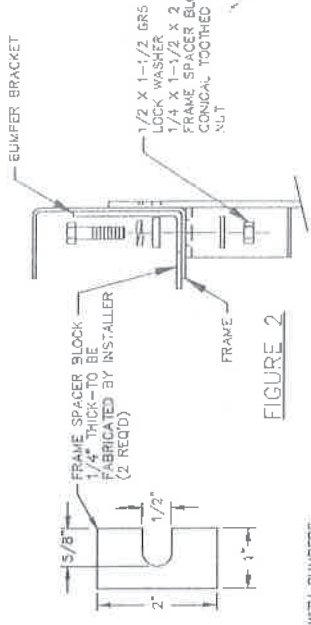

FIGURE 2
- LOOSELY INSTALL 1/2 X 1-1/2 GR5 HEX BOLT, LOCK WASHER & 1/4 X 1-1/2 X 2 BLOCK (1097-002) AT BOTTOM OF FRAME RAIL INTO SIDE ARM SUPPORTS OF HITCH, EACH SIDE. LOOSELY INSTALL CONICAL TOOTHED WASHERS AND NUTS. SEE FIGURE 2.
- VEHICLES WITH BUMPER BRACKETS ON INSIDE OR INSIDE/OUTSIDE OF FRAME MAY REQUIRE FABRICATION OF FRAME SPACER BLOCKS (2 REQ'D) BY INSTALLER. SEE FIGURE 2.
- ATTACH BUMPER TO BRACKETS. INSTALL 1/2 X 1-3/4 GR5 BOLTS, CONICAL TOOTHED WASHERS AND NUTS AS SHOWN. VEHICLES WITH BUMPER BRACKETS ON OUTSIDE OF FRAME REQUIRE TWO (2) 3/8 X 1 X 2 BLOCKS (1336) A. EACH ATTACHMENT AS SHOWN. TIGHTEN 1/2-15 GR5 FASTENERS TO 75 LB.-FT.